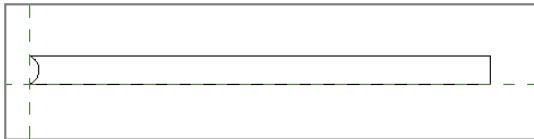

FIGURE 11.16 The grout detail component
2. Create a masonry joint 6" (150 mm) long and 3/8" (10 mm) high with a strike on one of the short ends (Figure 11.16) using a filled region with no hatch pattern.